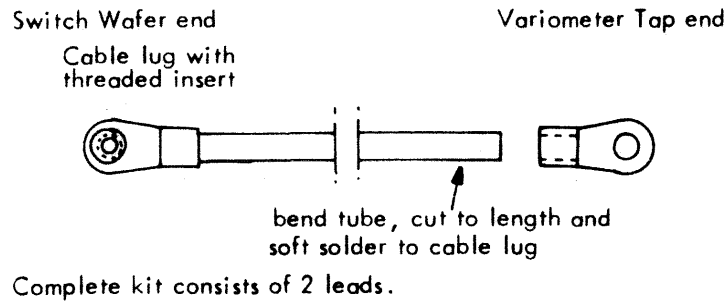

Fig. 2.9 - ANTENNA SWITCH - Solid Conductor Assembly Kit
4. To prepare and install — after the taps have been determined upon — new copper tube conductors from the variometer to the antenna switch. The PVC insulated wires installed at the factory are only meant to be temporary. Material for the preparation of permanent conductors is delivered with the set (see figure 2.9).
Replace the plastic-insulated leads by the partly pre-fabricated copper tube leads. Bend with smooth bends and to perfect fit — do not exert mechanical stress on the switch wafers. Refer to figure 2.9 for details.